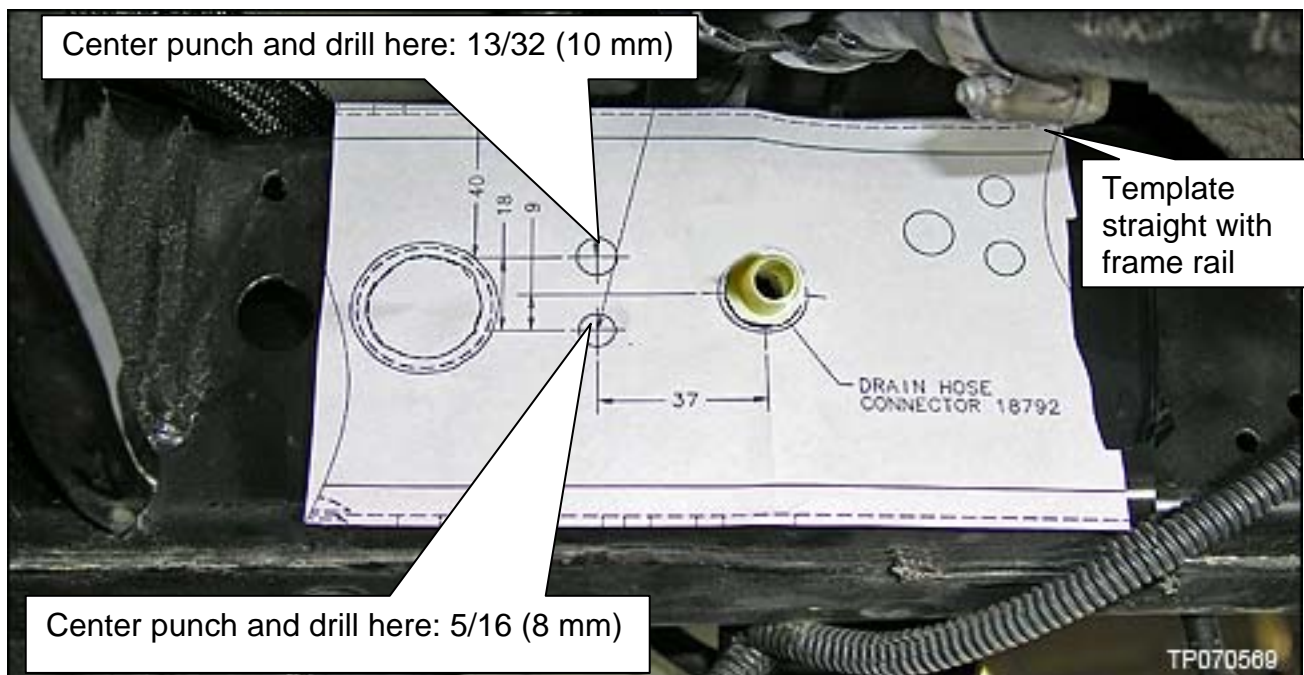

Figure 4
7. Cut out the template on page 10 and place it on the frame rail as shown in Figure 4.
8. Center punch and drill at the locations shown in Figure 4: